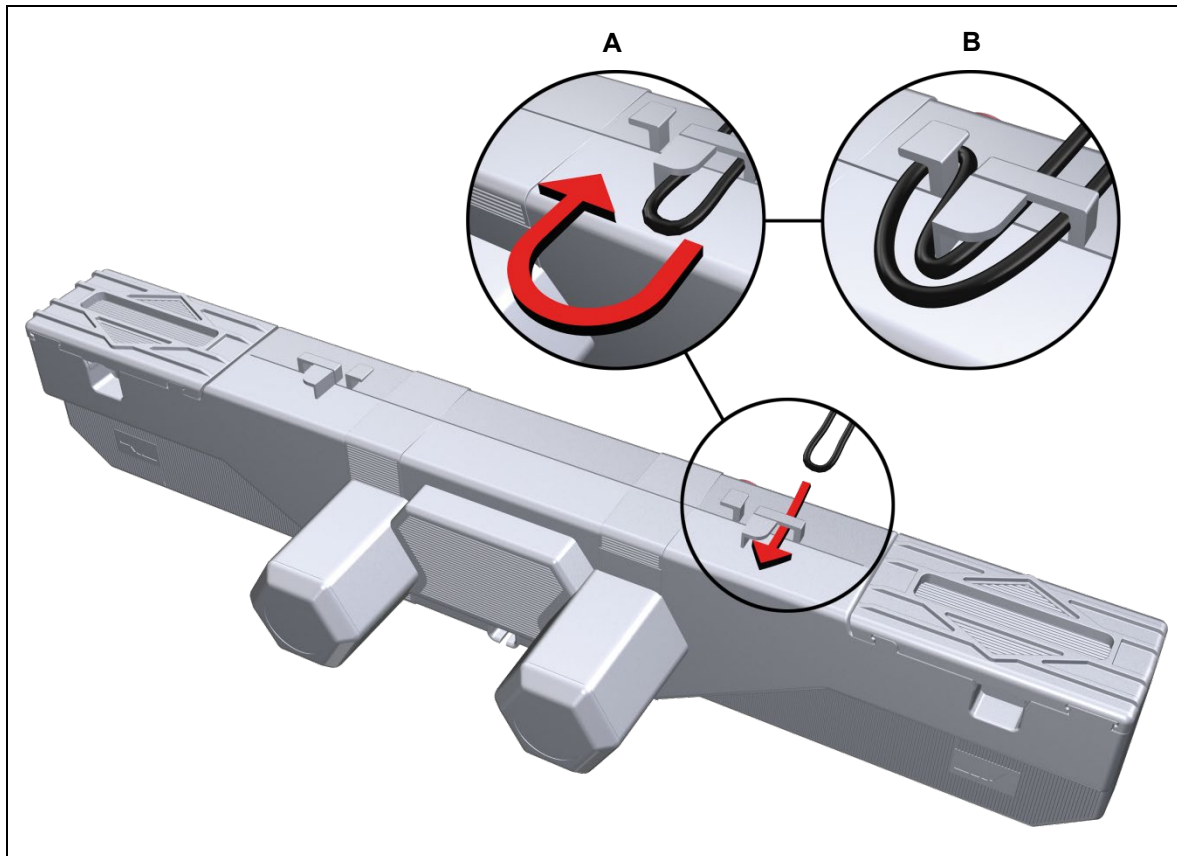

Figure 12 Looping the cable through the strain relief mechanism
- 2 Loop the handset cable through the strain relief catch and pull back gently on the loop as illustrated in Figure 12.